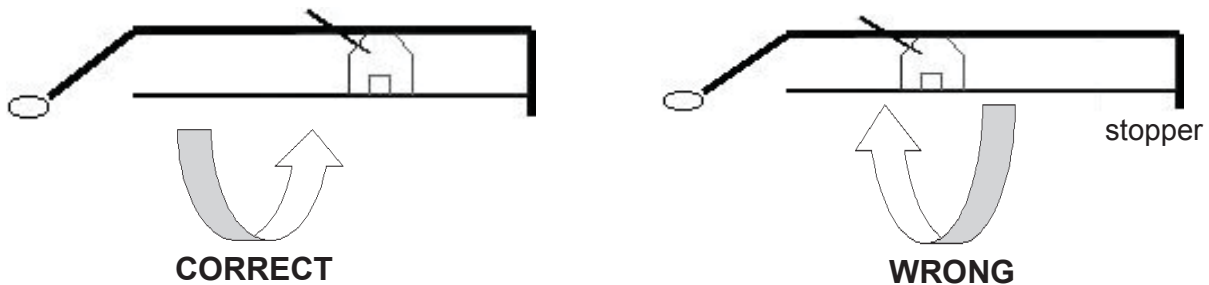

Figure 5
- 2 **Always** position the magnet so that it is slightly **below** the center of gravity of the workpiece when in **vertical** position. (See Figure 4 & Figure 5)
2. Adjust the position of the magnet according to the size of the load so that it is slightly off center and **below** the center of gravity. (See Figure 5) when the plate is in **vertical** position. Make sure the locking pin on the slider is engaged in the hole on the arm.
- 1 Push the device against the workpiece surface on the centerline and adjust the position of the magnet according to the size of the load so that it is slightly off center and **below** the center of gravity. (See Figure 5) **Make sure the locking pin on the slider is engaged in the slot.**